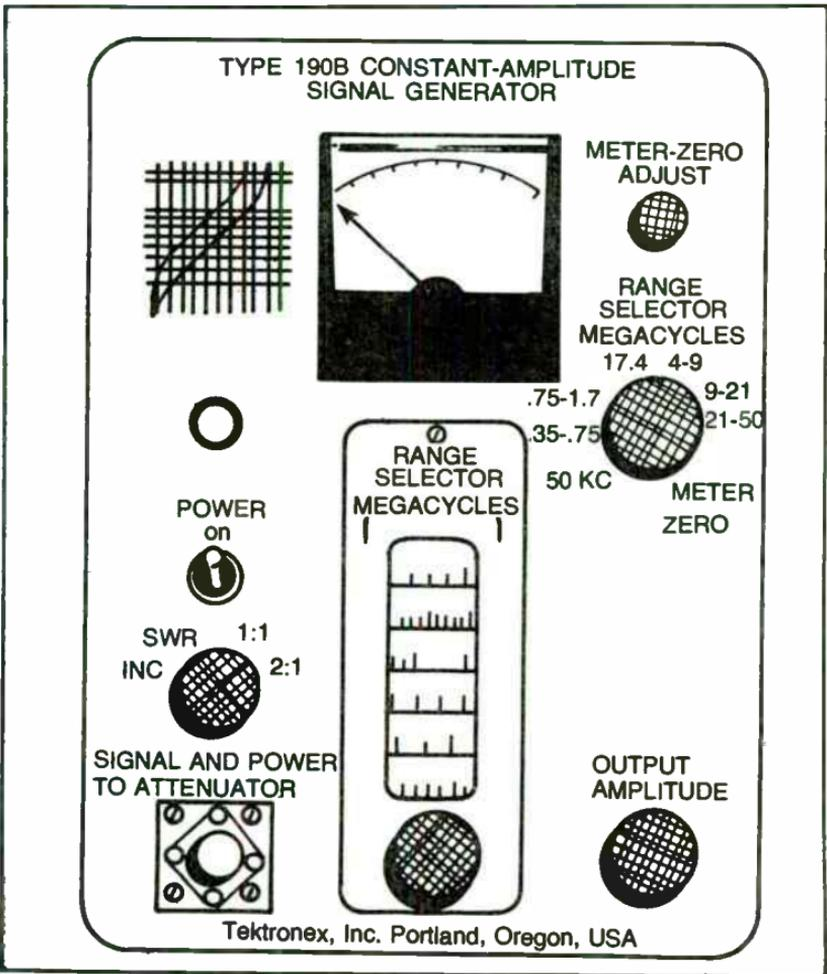

Fig. 12-7. Completed vswr bridge using modified Tek 190B generator.
- Drill a 5/16" diameter hole midway between the power switch and the SO-239 rf connector. Refer to Fig. 12-7. This hole will be for the vswr function switch.